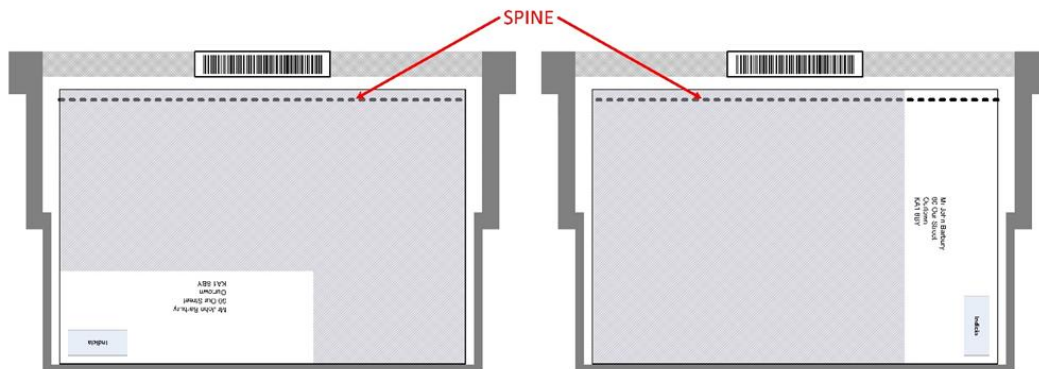

Figure 10: Unwrapped Mailing Items less than 240mm x 165mm in Trays
4. Presentation: Unwrapped Large Letters must be presented in Trays. Large Letters that are less than 240mm x 165mm in size must be presented with the spine towards the top of the tray as illustrated in Figure 10 below: